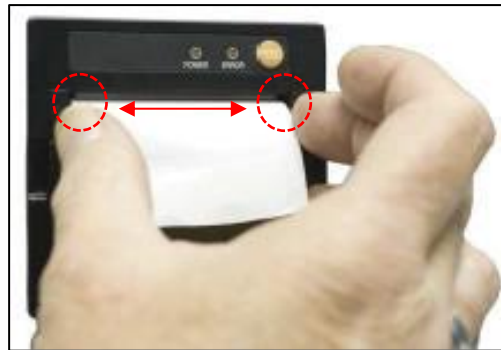

Figure 3-13 Aligning the paper
3. Line up the paper straight with the cutting edge as shown in Figure 3-13.